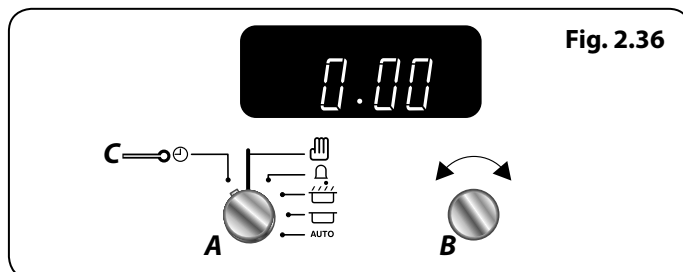

Fig. 2.36
To cancel any automatic settings turn the **Timer (A)** knob to the **Clock (C)** setting and release (**Fig. 2.36**).